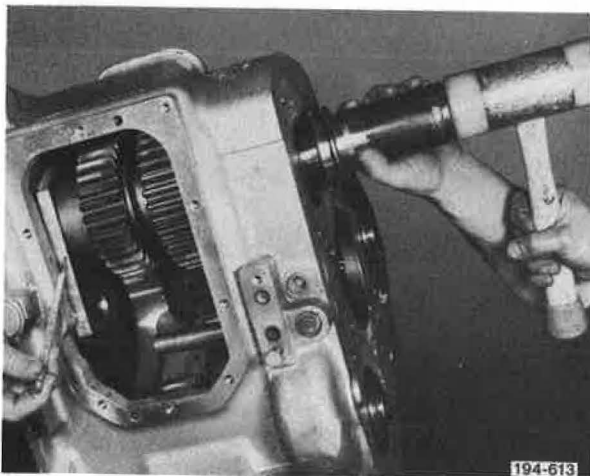

Figure 5-925. Installing Bearing
13. Place a block of metal at front end of rear countershaft, to provide a solid base, and install rear countershaft rear bearing using a suitable driving sleeve. Apply force to the inner race only. See Figure 5-925.